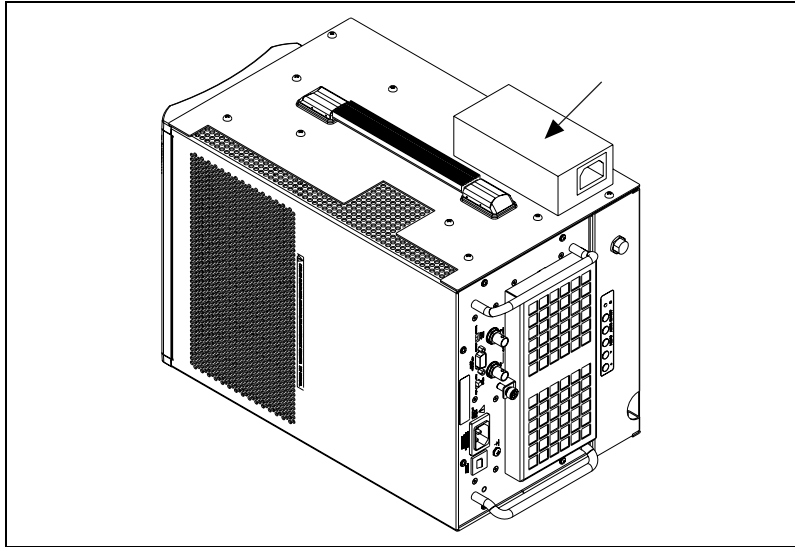

Figure 7. Suggested Location for Attaching AC Adapter
8. If desired, use the provided interlocking fastener to attach the AC adapter to the unit. One suggested location is shown in Figure 7. Cable ties are also provided to organize the power cabling.